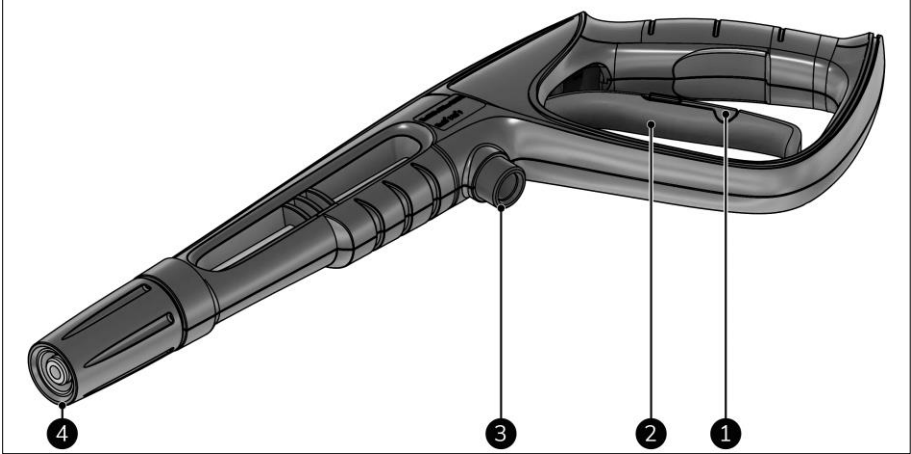

Figure 7
1. Make sure that the safety lock is locked (Figure 7, pos. 1).
3. Unlock the safety lock under the trigger (Figure 7, pos. 1).
4. Squeeze the trigger (Figure 7, pos. 2) for several seconds to remove the air from the hose.
3. Squeeze the trigger (Figure 7, pos. 2) and start cleaning.
1. If applicable, release the trigger (Figure 7, pos. 2).
2. Lock the safety lock under the trigger (Figure 7, pos. 1).